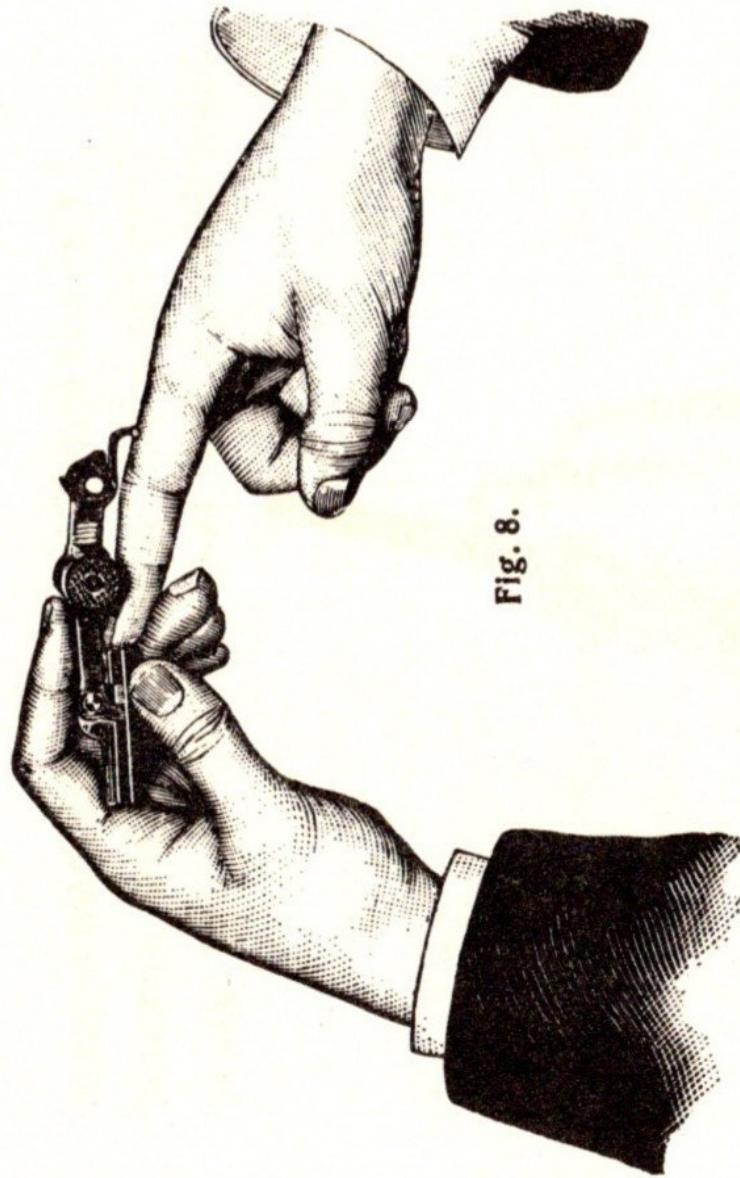

Fig. 8.
Hold the breech tightly (see fig. 8) with the toggle-joint as straight as possible, use the first finger of the right hand (or a small screw driver) and press the breech-block end piece (14) firmly inward so as to compress the firing pin spring, turn quickly to the left, thus getting its shoulder out of the groove, and let the bottom pin, yielding to the pressure of the spring, slowly glide out. Remove firing pin and spring.
First put firing pin and spring into position, then place the end piece with its shoulder in the slot in the breech-block, whilst compressing the spring (the parts to be held and moved as shown in fig. 8) turn quickly to the right until the shoulder or catch recedes through the transverse groove into the axial notch until the line stands vertically. It is very important to attend to this.